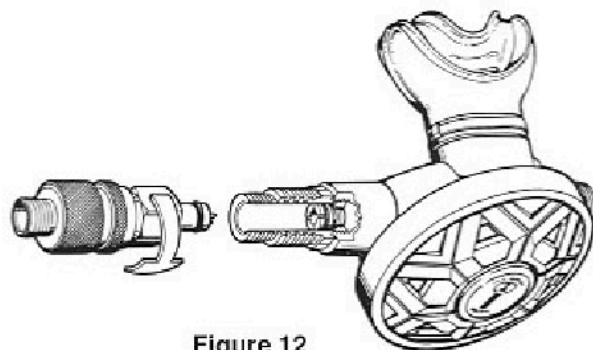

Figure 12
1. Install the two lubricated O-rings (items 28 & 29) on the intermediate-pressure hose (item 30).
2. Attach the hose (item 30) to $\frac{1}{2}$ -inch low-pressure port on the first-stage body using an $\frac{11}{16}$ " torque wrench. Tighten the hose clockwise to a torque of 40 inch-pounds.
4. Slide the O-ring sealed adjustment pin of the Arctic In-line Adjustment Tool into the open end of the inlet fitting (item 20). Next, hand tighten the swivel nut clockwise to secure the tool to the second-stage regulator (see figure 12).
5. Thread the swivel end of the hose (item 30) attached to the first stage regulator clockwise onto the In-line Adjustment Tool until hand tight.